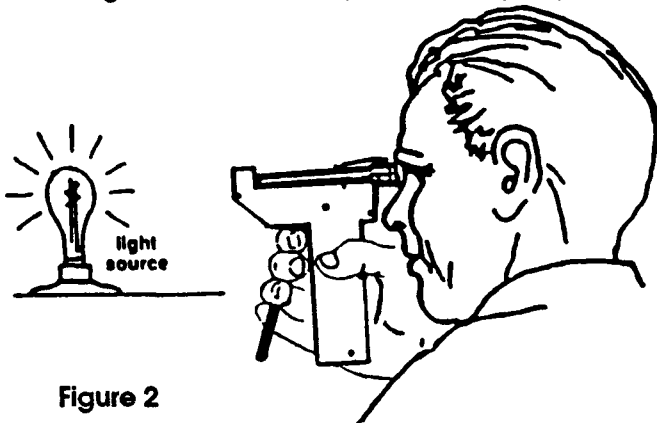

Figure 2
3. Release the trigger. Check that the position of the dosimeter provides a good view through the lens. Refer to fig. 2.
4. With the dosimeter locked in place and lens facing you, point towards a suitable light source, such as, a light fixture, window, candle, etc. as shown in fig. 2.